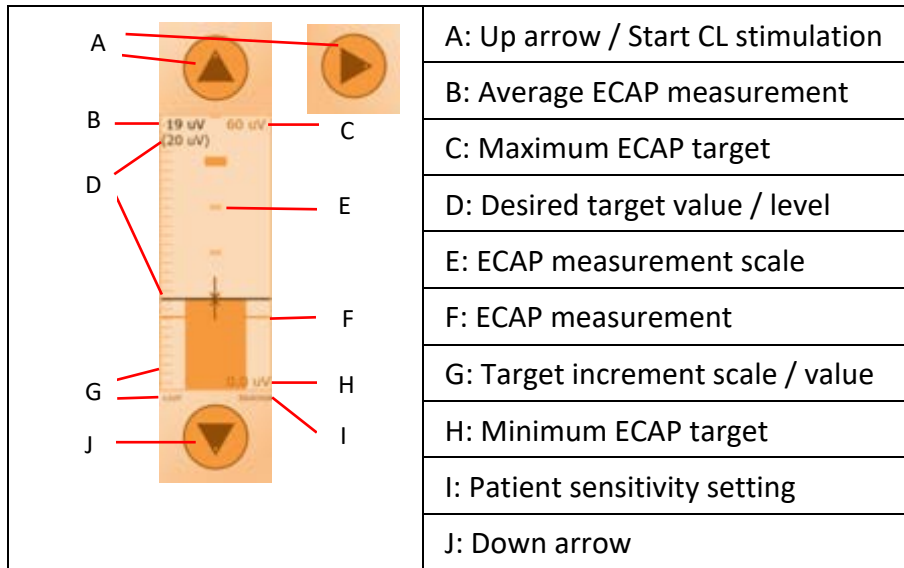

Figure 6.22: Features of the ECAP amplitude bar.
3. When closed-loop is enabled, the rolling plot will display with an orange background and the current will vary over time (Figure 6.20). The ECAP amplitude will vary around the target level (Figure 6.22). If the ECAP variability is increased after closed-loop is enabled:
4. Monitor the rolling plot through various postures. Ask the patient to move into various postures such as sitting, standing and lying on their back (supine) while you watch the rolling plot to see how the closed-loop control responds. The ECAP amplitude will show some variability, but the average ECAP amplitude should track the target level (Figure 6.22), and changes in current should track the patient's movement (Figure 6.21). If they don't, you may need to adjust the ECAP measurement settings (see Section 6.10).
Closed-loop stimulation may be changed using the ECAP amplitude bar (Figure 6.22).